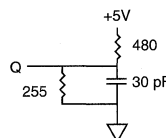

Fig. 1 OUTPUT LOAD EQUIVALENT
Output load	See Figures 1 and 2
- Test conditions as specified with the output loading as shown in Fig. 1 unless otherwise noted.